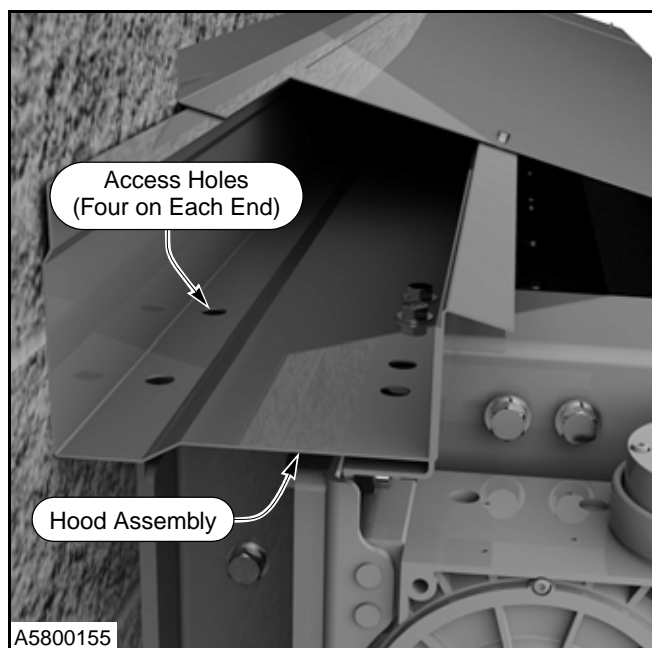

Figure 34
3. If the optional hood assembly is installed, route all cables and wires through prefabricated access holes. (See Figure 34.)